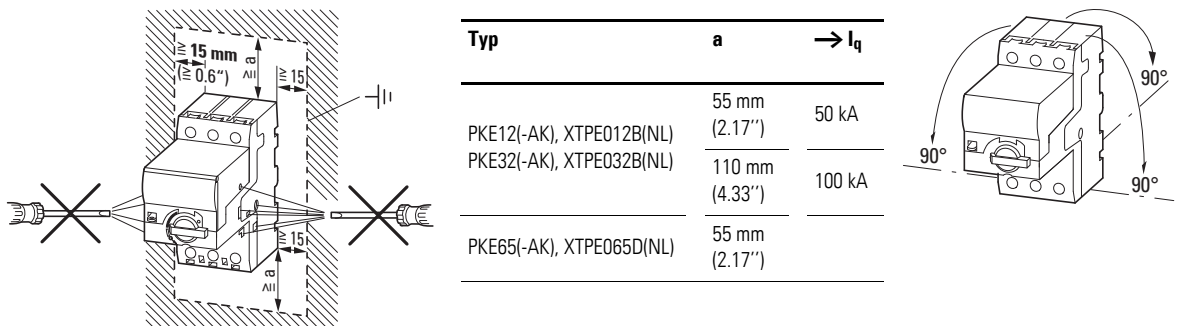

Figure 9: Approved mounting position for PKE motor-protective circuit-breakers
- ▶ Mount the motor-protective circuit-breaker only as shown in figure 9.